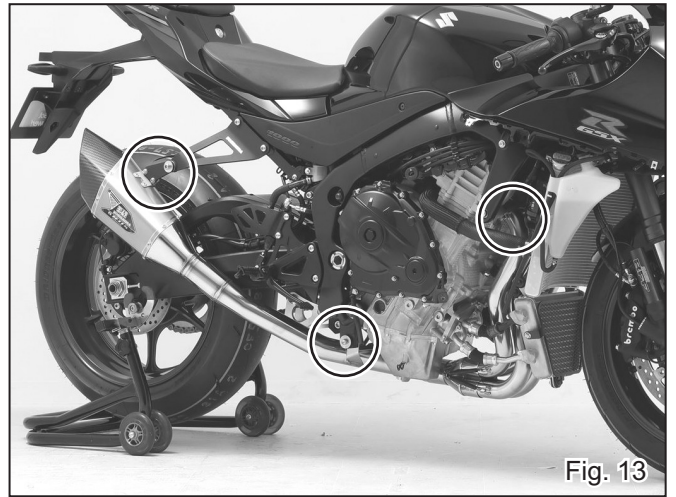

Fig. 13
- 20) Check that there are proper clearances between Yoshimura exhaust system and other components. Then, tighten and torque 8 of stock bolt on exhaust ports, stock bolt on tailpipe bracket, 2 of Button Bolt M6x20 and stock bolt on Silencer Bracket in order (see Fig. 13).